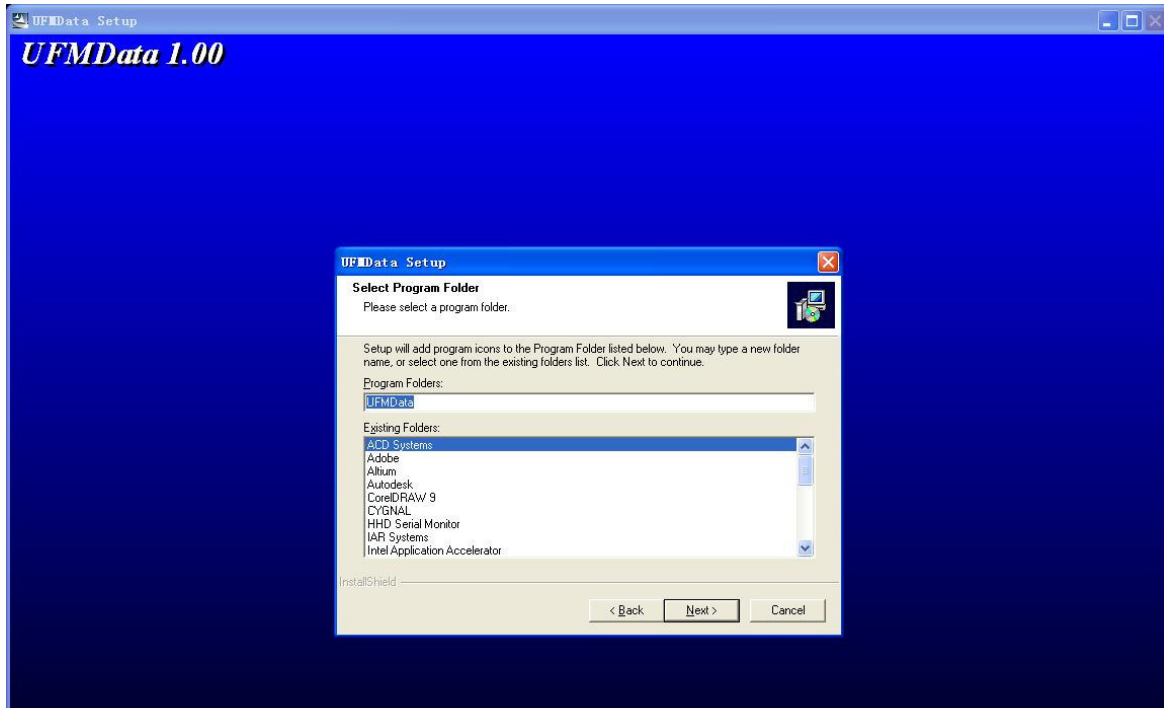

Figure 6-8 Select UFMDDataProgram Folder
Step 3: Select a program folder, then click “Next” to enter next step, as shown in Figure 6-8.